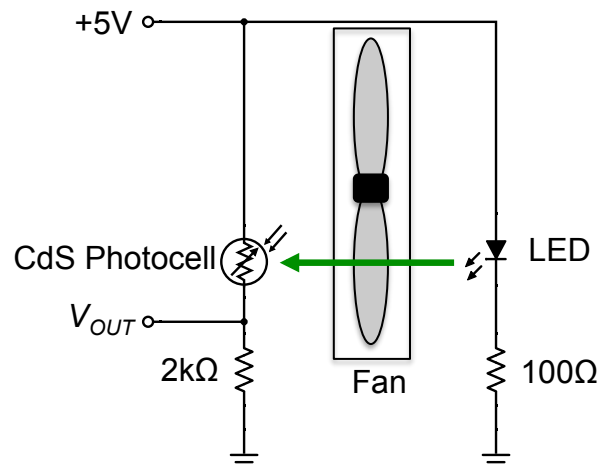

Figure 1 - A schematic drawing of the optical tachometer. (The +12V connections for the fan have been omitted.)
2. Sketch the schematic shown in Fig. 1 in your lab notebook.
5. Using the breadboard, construct the CdS photocell voltage divider circuit shown on the left side of Fig. 1. Use a multimeter to test it and make sure it works.
6. Construct the LED circuit shown on the right side of Fig. 1 on the breadboard adjacent to the CdS photocell. Bend the LED and CdS photocell, such that the lens on the top of the LED is facing the CdS photocell. Make sure you leave space for the fan to fit in between. Test it to make sure it works.
9. Place the fan in between the photocell and LED, so that the light from the LED passes through the blades to the photocell, as shown in Fig. 1. (Scotch tape is available to hold the fan in place.)